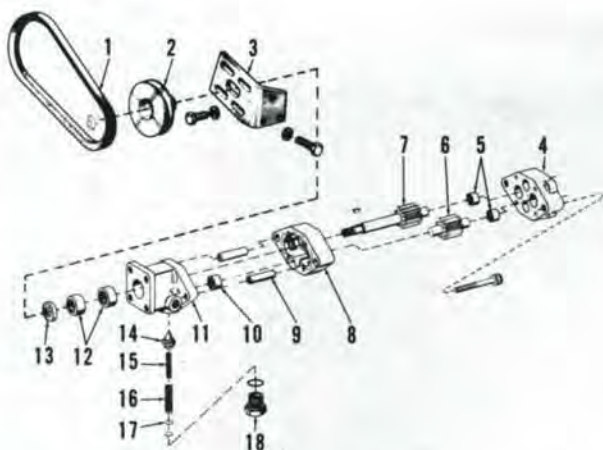

Fig. 4—Exploded view of power steering pump.
**Loss of Power.** If steering boost power seems low, probable cause is inadequate system pressure. Check and adjust setting of relief valve (14—Fig. 4) in steering pump as detailed in paragraph 8. If this by-pass pressure check indicates no problem, then pressure loss is due to piston seal failure in the steering cylinder (ram) which will require overhaul. See paragraphs 15 & 16.
8. To locate the cause of malfunction in the steering system, it is necessary to measure line pressure of fluid by using a high pressure (minimum 3500 psi) hydraulic test gage. The tester inlet should be connected "teed in" to the line between the steering valve "IN" port (Fig. 6) and the pump outlet. With test gage so installed, engine speed regulated at 2250 RPM and fluid at normal operating temperature, the pressure relief valve in the pump should open (by-pass) at 1000-1200 psi. To obtain this by-pass reading, turn steering gear to extreme left or right limit and hold just long enough for a gage reading—one or two seconds. Holding the by-pass position more than momentarily will cause rapid overheating of the system and possible damage. Removal or addition of one shim (17—Fig. 4) will change relief pressure by approximately 50 psi. If system pressure does not respond satisfactorily to shim changes, need for overhaul of pump is indicated. See paragraph 10.
9. A belt-driven gear pump mounted inside the frame rail at left front of engine is the pressure source for the power steering system. See Figure 4.